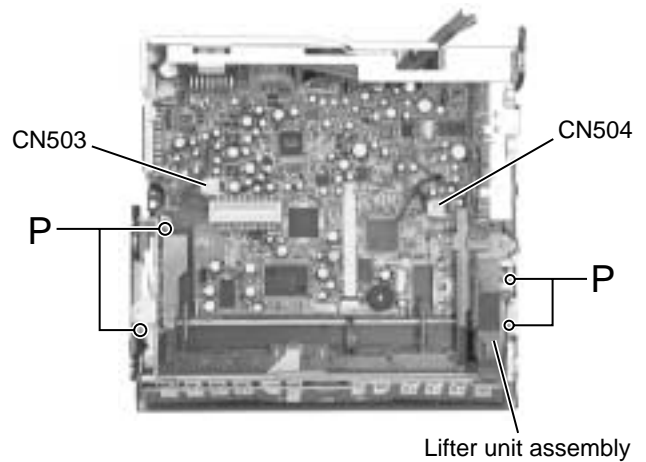

Fig.12
■ Removing the lifter unit (See Fig.12)